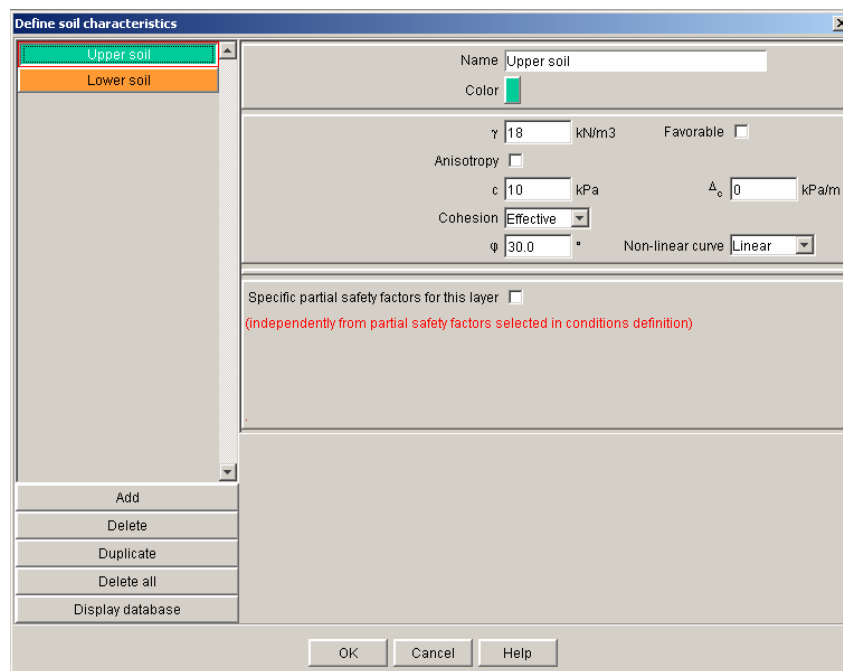

Figure 65: properties of the upper layer
- In order to define these characteristics, select for example menu [Project data] then [Soil characteristics]. Click on the button “Add”, and fill in the data for the 1st layer (Figure 65). Then click again on “Add” and fill in the data for the 2nd soil layer. To switch from a soil layer to the other, click on the layer labels in the left list of the dialogue box.